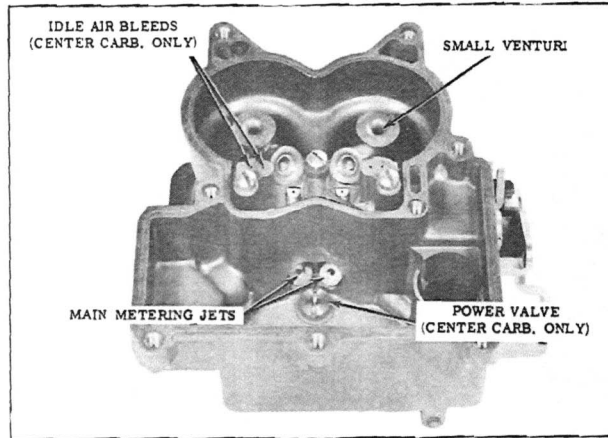

Fig. 22 Cluster, Jets and Power Valve
2. Remove main metering jets. (See Fig. 22)
3. (Center Carburetor Only). Remove power valve and gasket. (See Fig. 22)